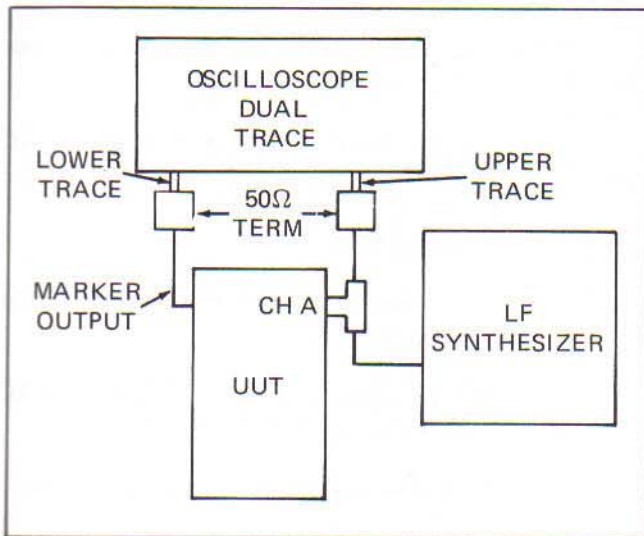

Figure 4-6. Marker Check
2. Connect the LF synthesizer and dual trace oscilloscope to the UUT as shown in Figure 4-6.